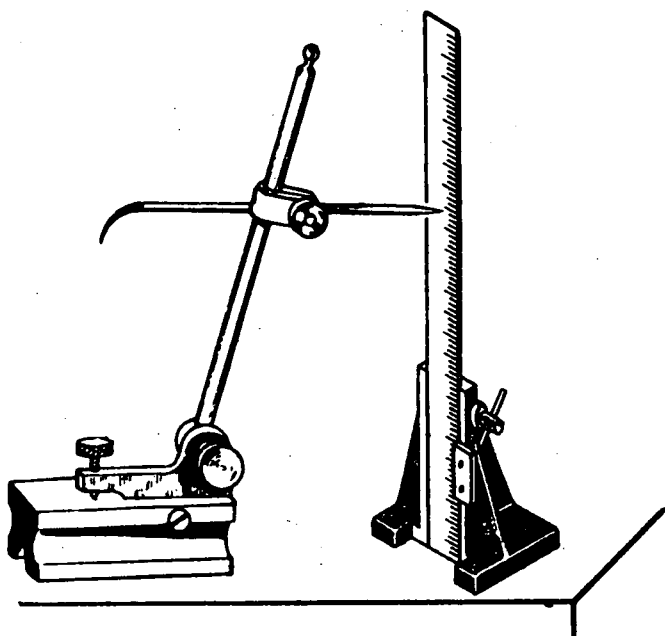
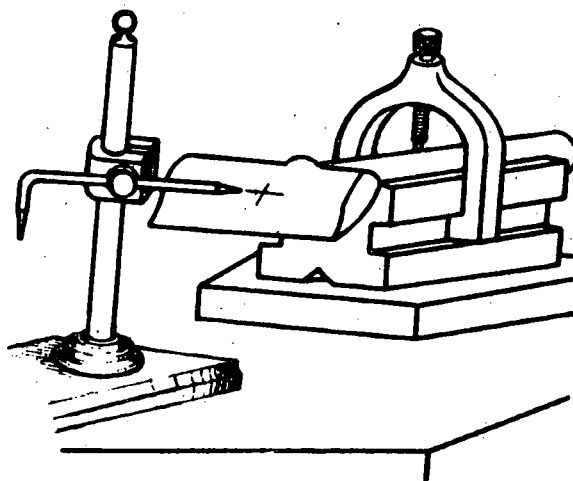

Fig. 6
Fig. 7
- a) Set the marking-height either by measurement (Fig. 6) or against a reference-point (Fig. 7).